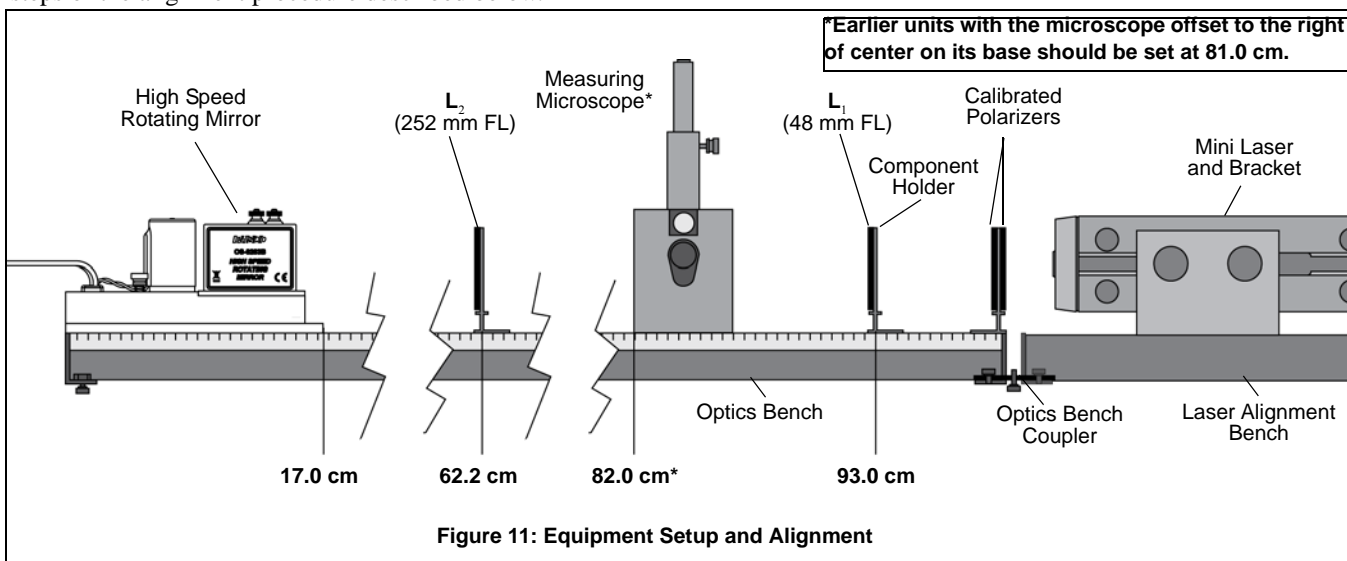

Figure 11: Equipment Setup and Alignment
For reference as you set up the equipment, Figure 11 shows the approximate positioning of the components with respect to the metric scale on the side of the Optics Bench. The exact placement of each component depends on the position of the Fixed Mirror ( $M_f$ ) and must be determined by following the steps of the alignment procedure described below.
18. Mount the Measuring Microscope on the Optics Bench so that the edge of the Microscope Housing is flush with the fence on the bench. Position the Measuring Microscope so that its left edge is aligned with the 82.0 cm mark on the metric scale on the bench (see Figure 11).
(See Figure 11 for approximate component placement.)